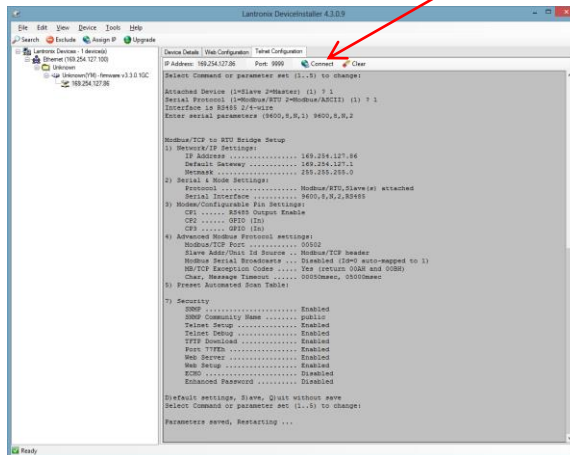

Fig 6.8.1
6.8 As shown in fig 6.8.1, enter ‘S’ or ‘s’ to save the changes. Then click “Connect” to verify the changes.